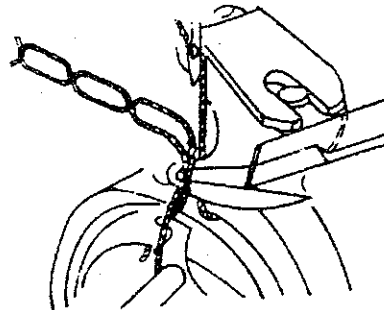

Fig. 24
- Confirm that the moving knife spreads the threads as shown in Fig. 24